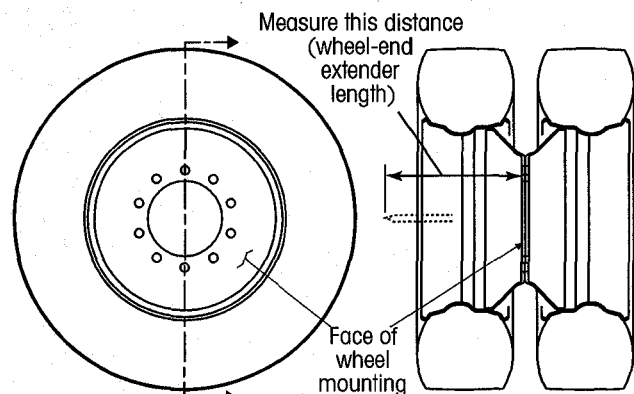

Figure 22: Measuring wheel-end extender length
- A. Measure the length of one wheel-end extender. Measure from the face of the wheel mounting to the tip of the wheel-end extender (Figure 22).